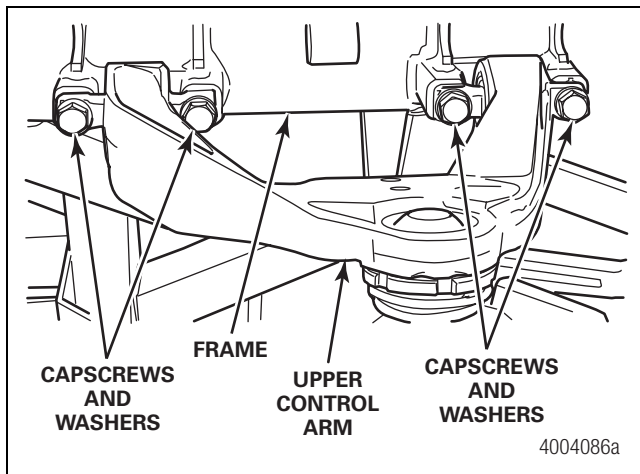

Figure 5.10
5. Remove the four capscrews and washers that secure the upper control arm to the suspension subframe. Remove the upper control arm. Figure 5.10.